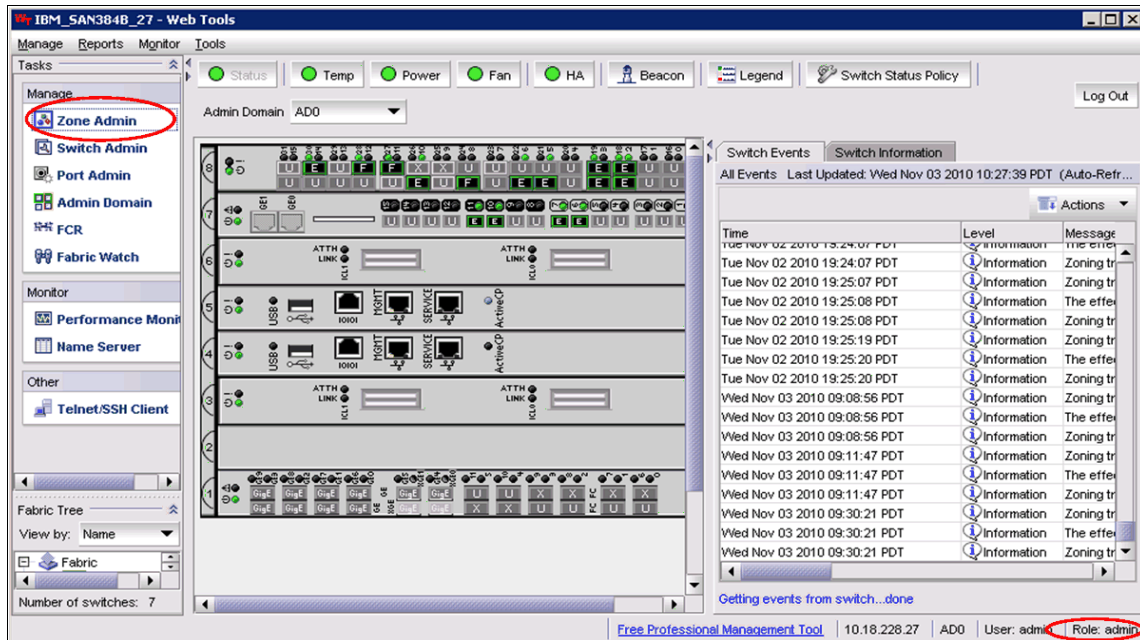

Figure 12-30 Switch Explorer
4. The first thing that you see when you log in to a switch with Web Tools is the Switch Explorer, shown in Figure 12-30.
5. Be sure that the role assigned to you has the rights to perform zoning (see Table 12-1 on page 545). The role assigned to you is shown in the Switch Explorer in Figure 12-30 (see the rounded rectangle). Click **Zone Admin**.